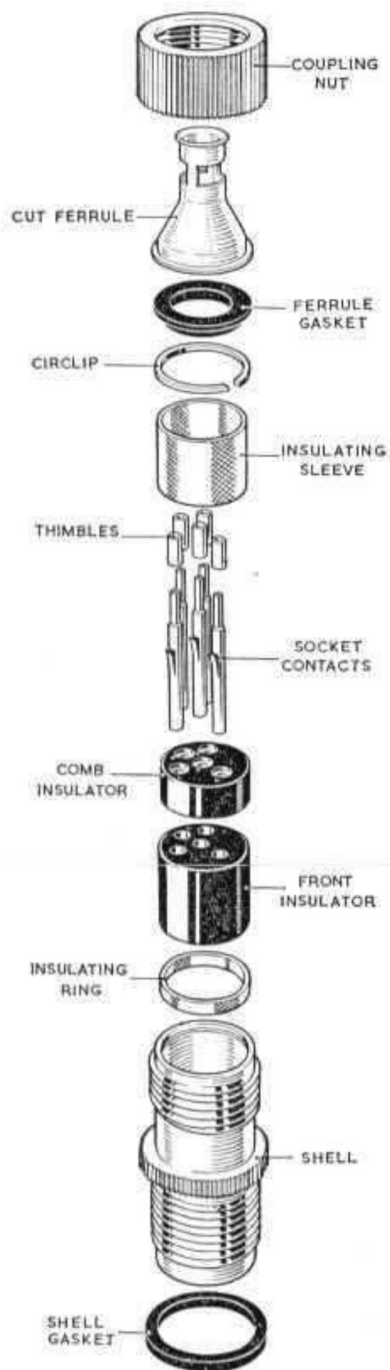

Fig. 6. Free unit (exploded) with coupling nut and cut ferrule, climatic-proof
15. Units at stage 3 (fig. 6 and 8) differed from those at stage 2 in that the shell rim and the coupling nut have straight knurls. The use of a comb insulator in this type restricts the use of the unit to
##### Coupling nut (Table 27, fig. 6 and 7)
*Cut ferrule (round base) (Table 37 and fig. 6)*